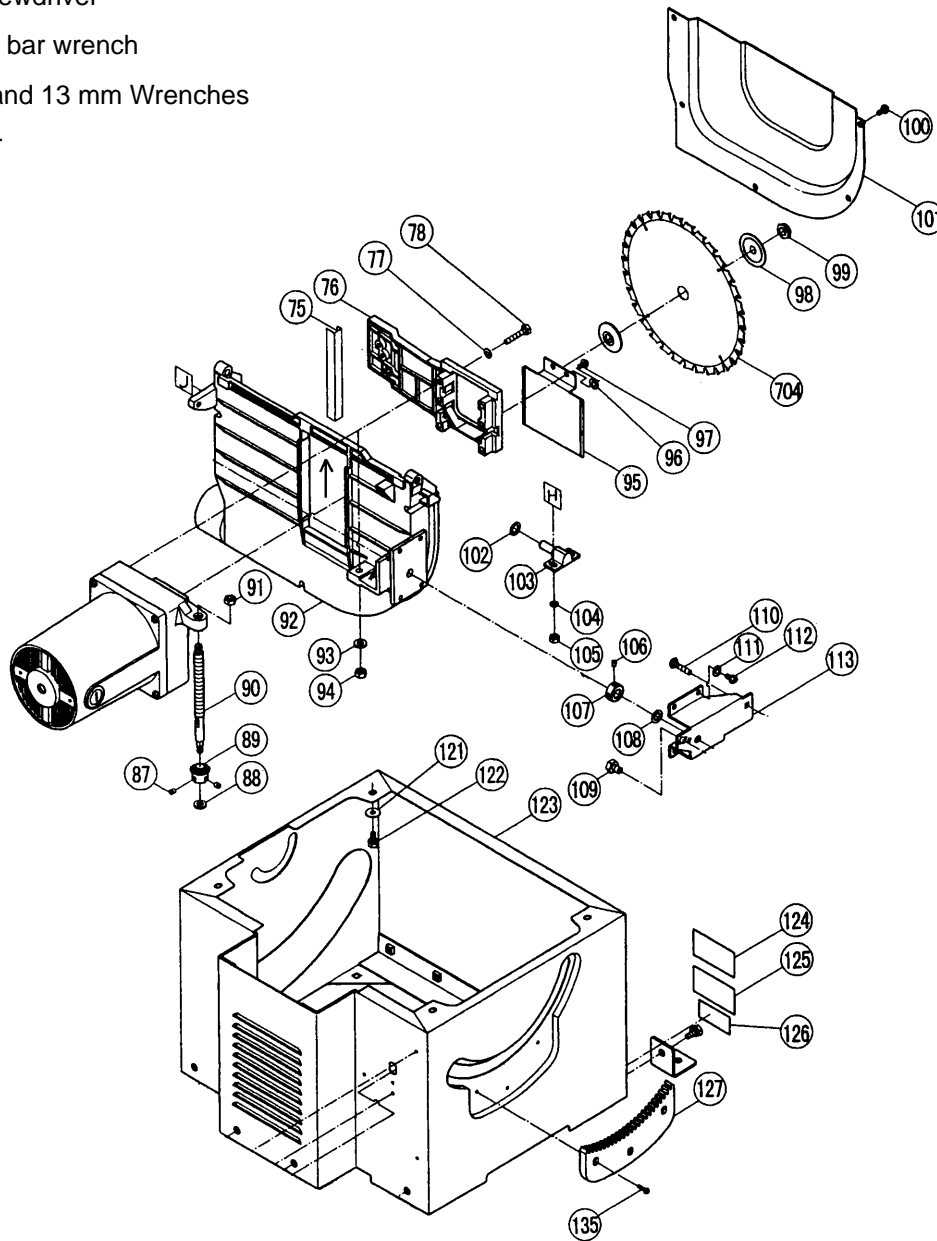

Fig. 26
- (1) Remove the four M6 Nuts [105] using a 10 mm wrench, and remove the Body [92] from the Table [67].
- (2) Remove the four M6 x 12 Machine Screws [112], and remove the Bracket [113].
- (3) Remove the five D5 x 10 Tapping Screws [100], and remove the Blade Guard [101].
- (4) Remove the M6 x 12 Machine Screw [97], and remove the Guard [95].
- (5) Hold the Screw Bar [90] using an 8 mm wrench, and remove the M6 Special Nut Chuck [94] with a 10 mm wrench.
- (6) Slide the Bracket [211] upward (in the direction of the arrow in Fig. 26) and loosen the two M6 x 6 Hex. Socket Set Screws [87]. Remove the M8 x 14.3 Flat Washer [88] and Bevel Gear (B) [89] from the Screw Bar [90].
- (7) Remove the four M6 x 35 Bolts [78] using a 10 mm wrench, and remove the Slide Bracket [76] and Bracket [211].
- (8) Remove the four M4 x 12 Machine Screws [203], and remove the Bearing Retainer [205].
- (9) Remove the Spindle Ass'y [201] by striking the Bracket [211] with a plastic hammer.
- (10) Hold the Screw Bar [90] using an 8 mm wrench, and remove the M8 Nut Chuck [91] with a 13 mm wrench.